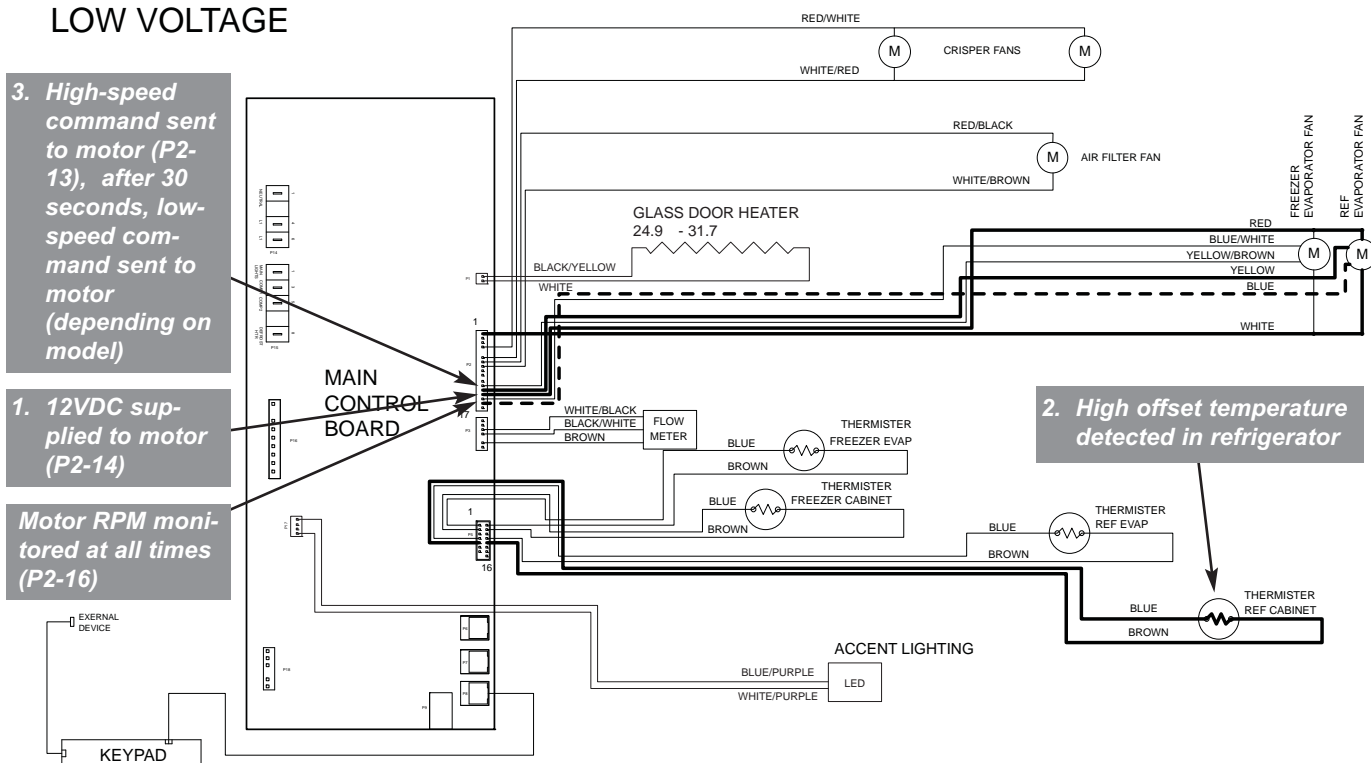

Figure 3-40. Signal Trace Schematic: Low DC Voltage Variable Speed Refrigerator Fan Operation
The evaporator fan in the refrigerator zone uses a low DC voltage variable speed motor. During normal operation and when the door is closed, the motor is supplied with 12V DC at all times from P2-14 off of the control board, with the neutral or ground return to P2-1. When high offset temperature is detected a command is sent to the evaporator fan motor from P2-13 to run at high-speed, and the RPM is monitored via P2-16. On some models, the refrigerator evaporator fan will always run at high speed when energized, while on others a command will be sent to the fan after approximately thirty (30) seconds of high-speed operation to ramp down to low-speed. This will vary by model. If the compartment thermistor in those models where the fan speed is normally ramped down after thirty (30) seconds detects temperatures above high offset, the fan will remain at high-speed until the temperature falls below high offset, then ramp down to low-speed. And, in all models, if the refrigerator door is opened while the evaporator fan is operating, the microprocessor will detect the power signal to the lights and interrupts the 12V DC power to the fan. (See Figure 3-40)